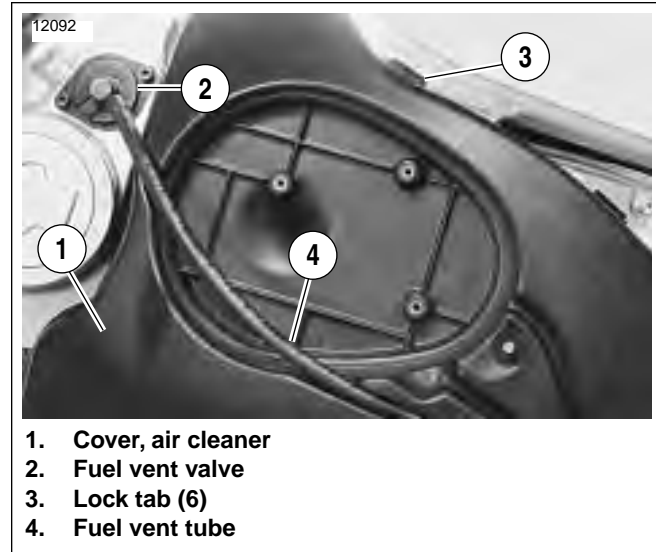
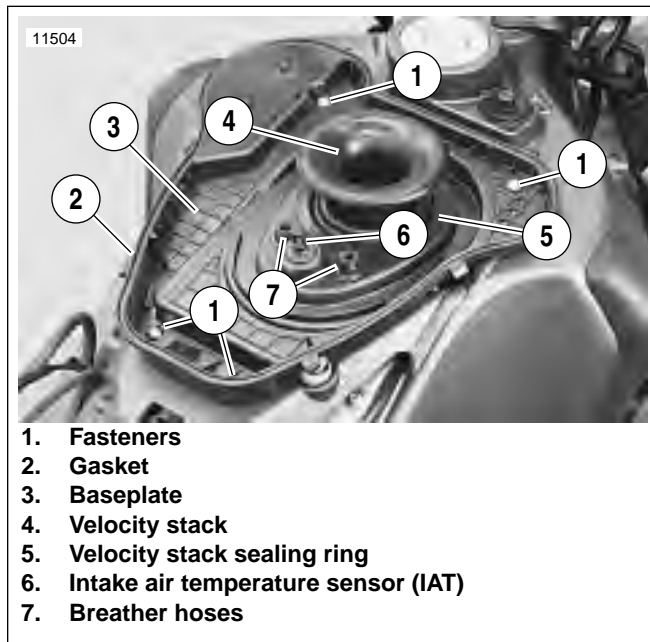

Figure 4-111. Air Cleaner Cover (XB9R)
Figure 4-113. Baseplate
2. See Figure 4-111. Remove fuel vent tube (4) from fuel vapor valve (2) and groove on top of air cleaner cover (1).
4. Unlatch six lock tabs (3) and remove air cleaner cover from baseplate.
6. See Figure 4-113. Remove air cleaner baseplate.
- a. Remove four fasteners (1) and raise baseplate (4).
- d. Remove IAT sensor (2) from grommet on bottom of baseplate.
- e. Lift baseplate off of frame, carefully disengaging baseplate from rubber sealing ring (8) on velocity stack (7).
1. See Figure 4-113. Hold baseplate above mounting position.